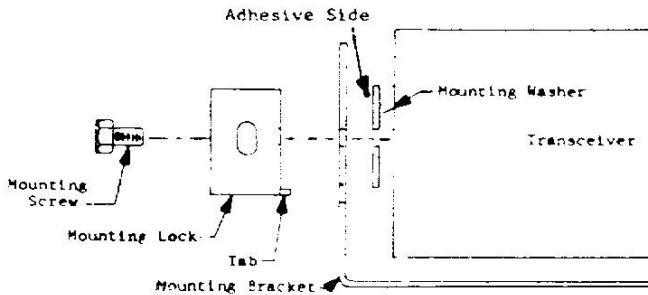

Figure 2-2. Mounting-Lock Installation
3. Secure mounting lock to unit, using one of the hex-head mounting screws provided. Be sure that screw passes through correct hole in mounting bracket. Refer to Figure 2-2.